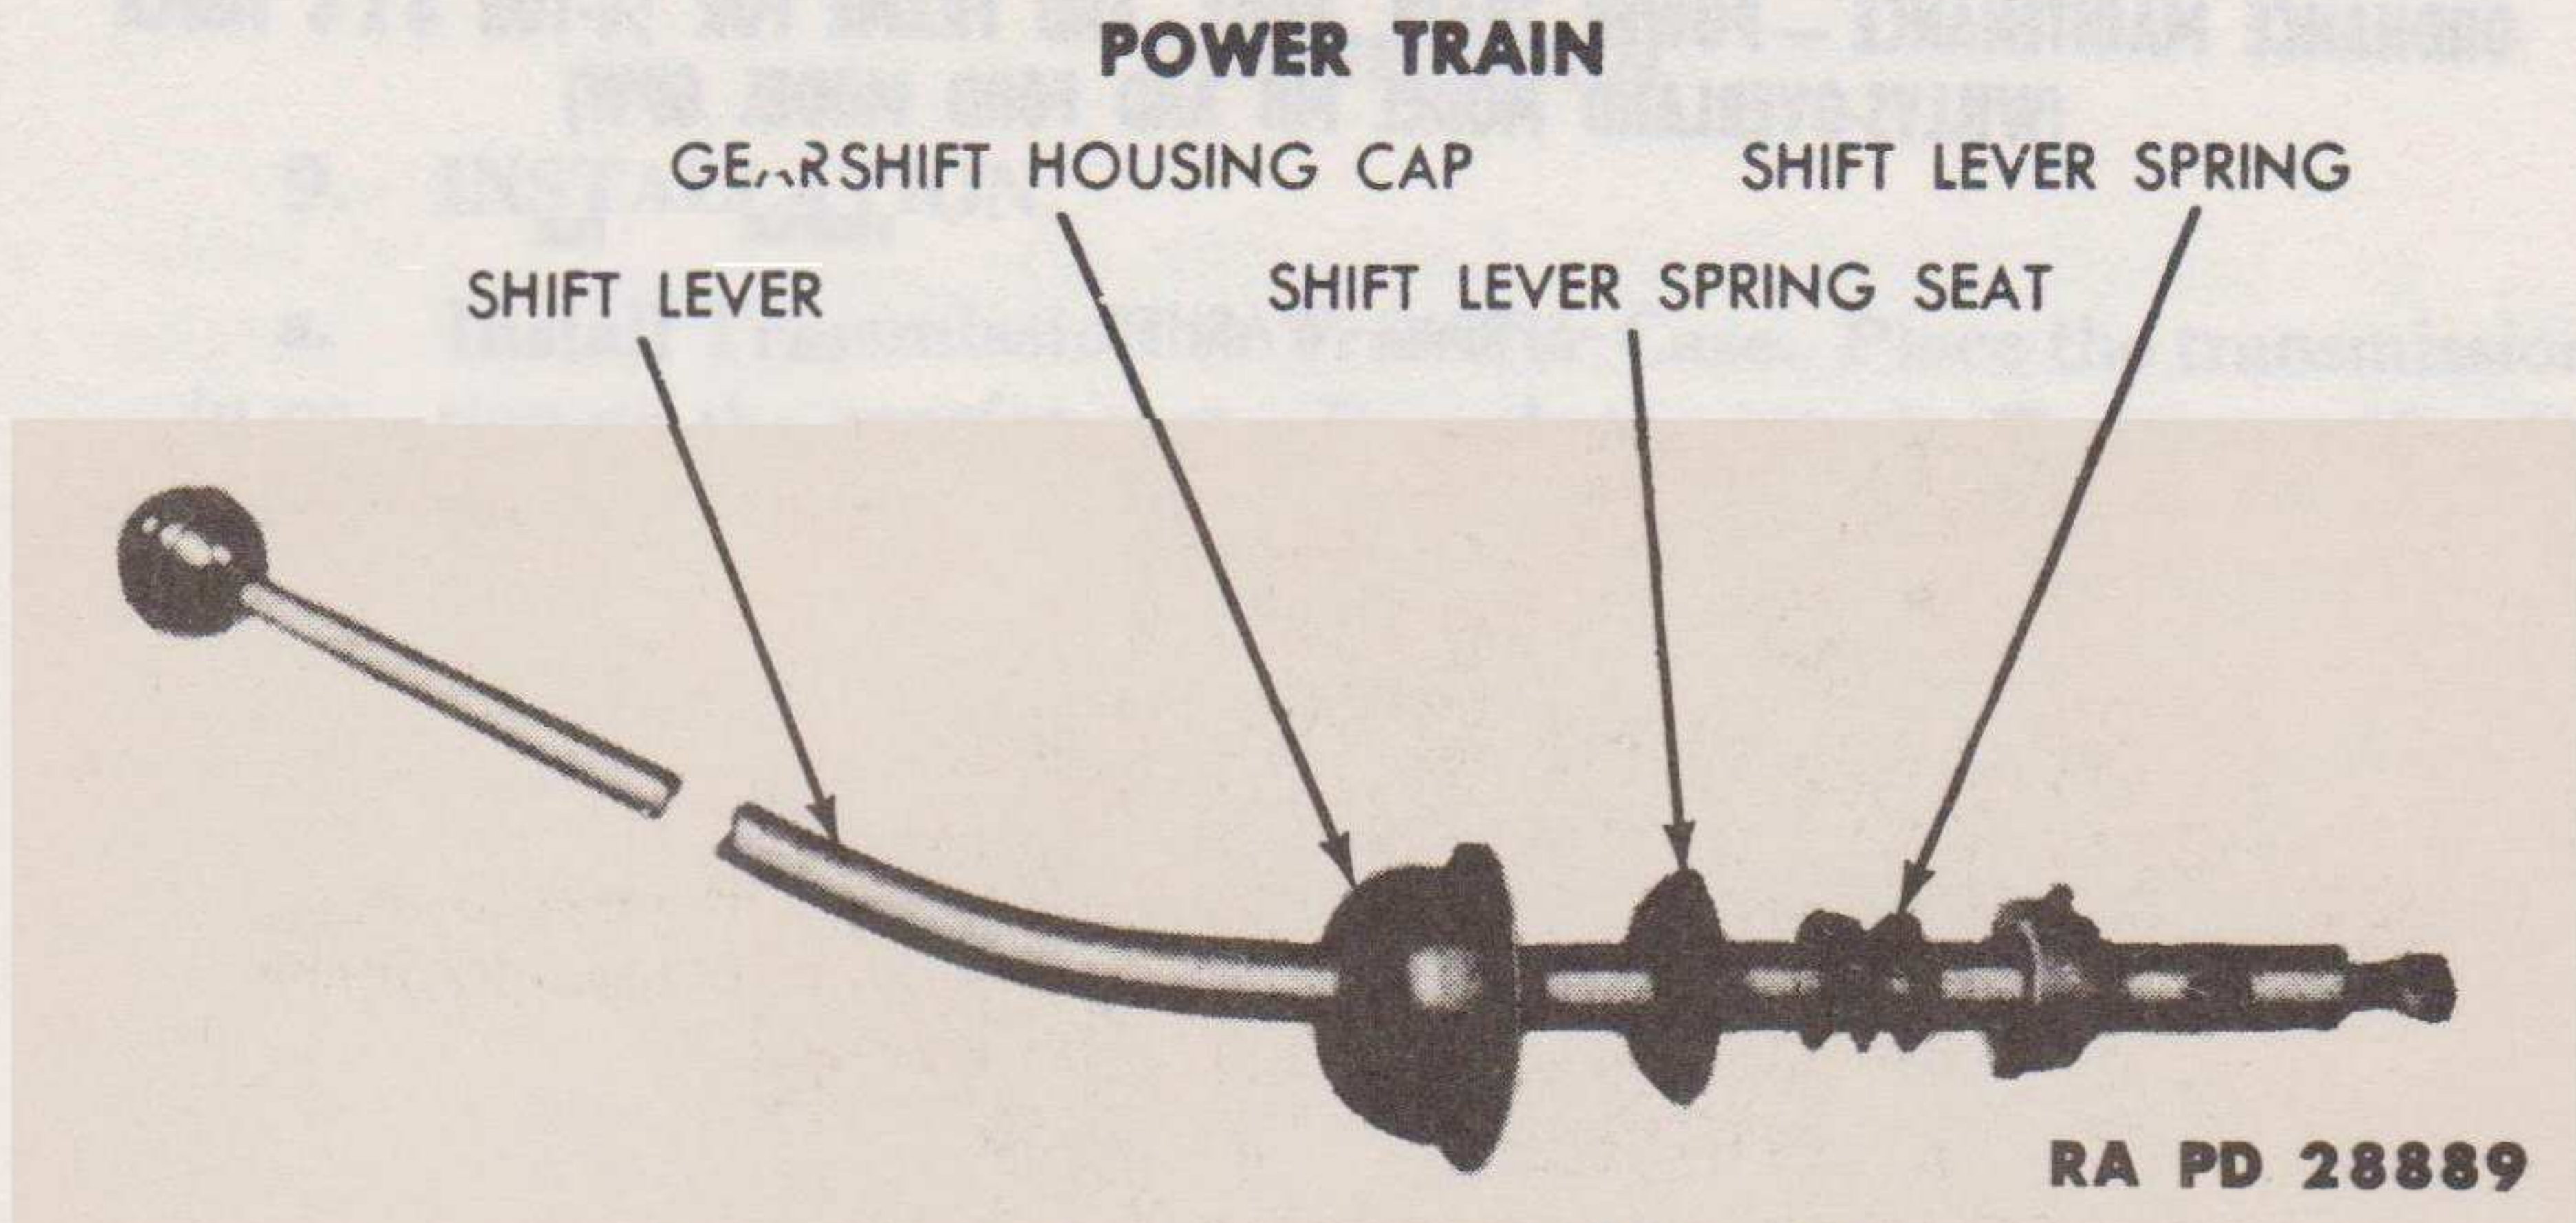

Figure 16 – Transmission Shift Lever
(14) **SHIFT LEVER** (fig. 16). Replace the shift lever if it is excessively worn or bent. Check the gearshift housing cap for stripped threads. Replace the shift lever spring, if it is cracked.